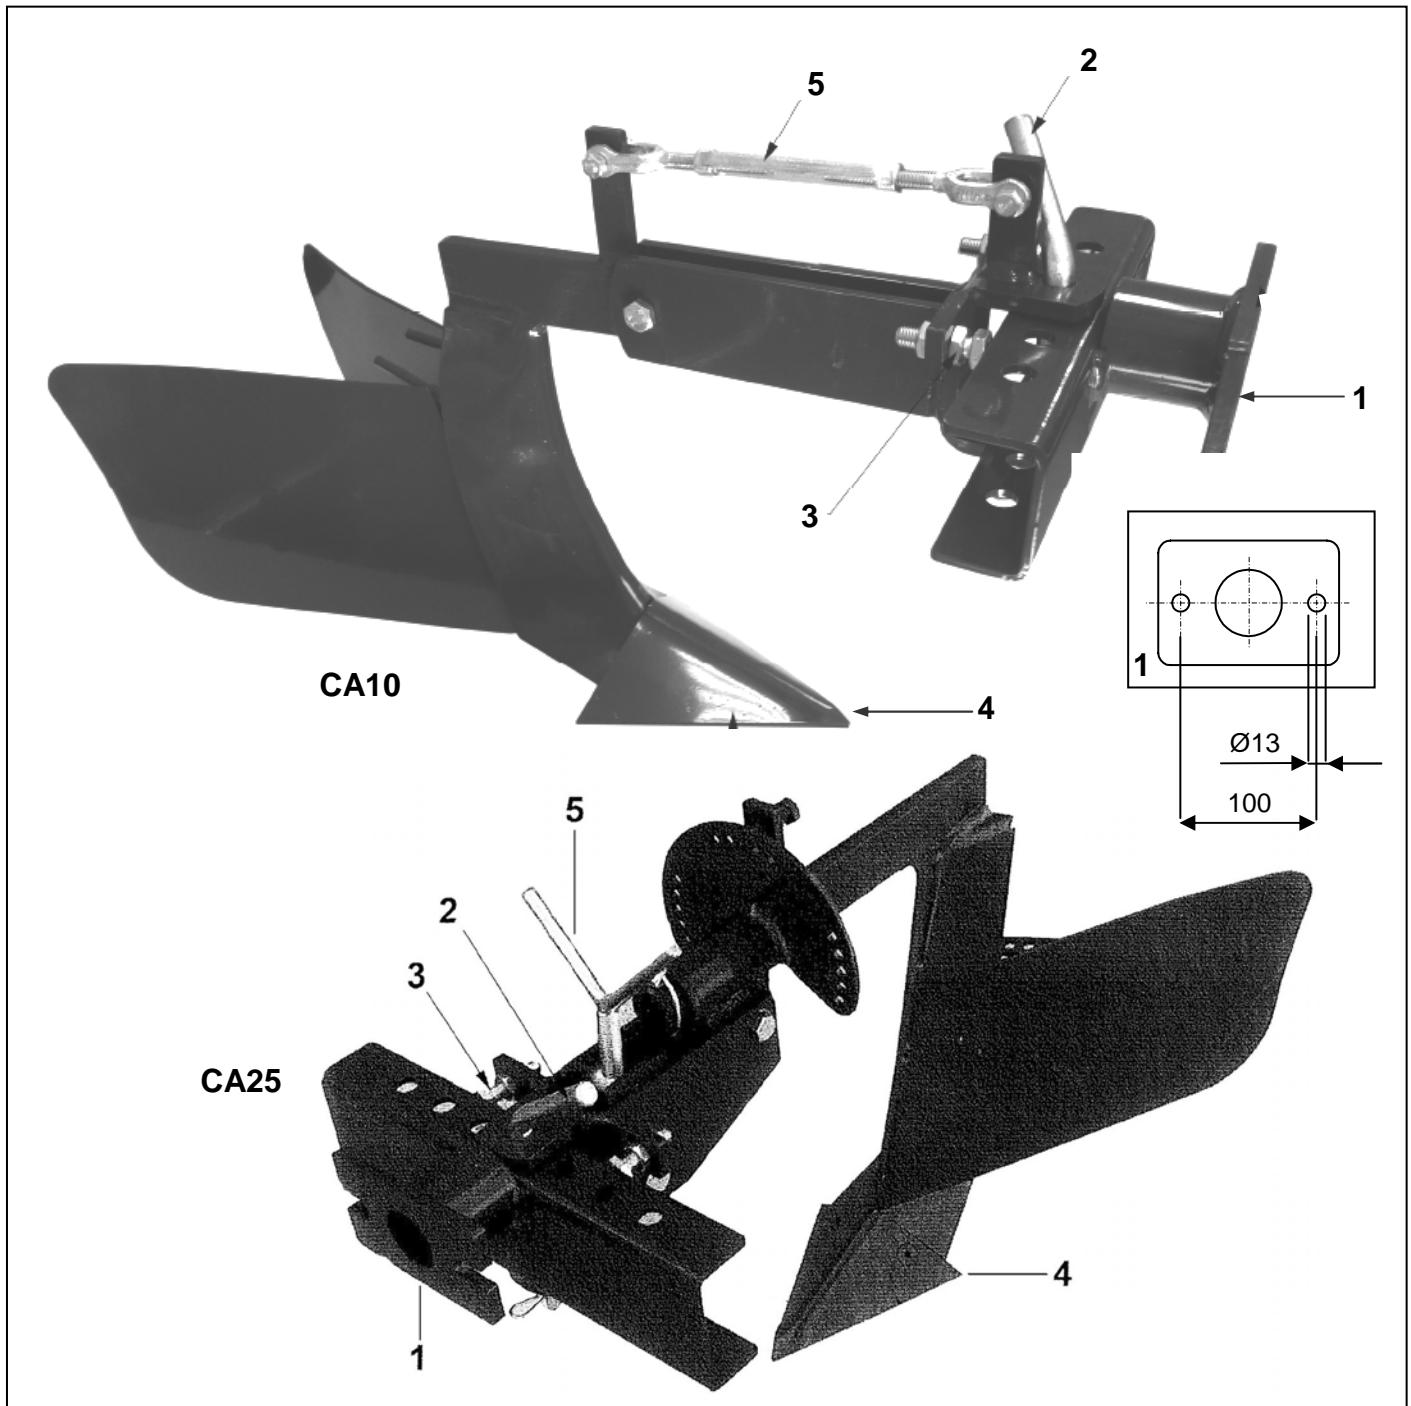

fig.7
**ATTACCO AL MOTOCOLTIVATORE (fig.7 pag.22)**
**REGOLAZIONI (fig.7 - 8 pag.22)**
**ATTACHING TO THE TILLER (fig.7 page 22)**
**ADJUSTMENTS (fig.7 - 8 page 22)**
**ATTELAGE AU MOTOCULTEUR (fig.7 page 22)**
**REGLAGES (fig.7 – 8 page 22)**
**CONEXIÓN AL MOTOCULTIVADOR (fig.7 pag.22)**
**REGULACIONES (fig.7 – 8 pag.22)**
**ANSCHLUSS AN DEN EINACHSTRAKTOR (Abb.7 Seite 22)**
**EINSTELLUNGEN (Abb.7 – 8 Seite 22)**